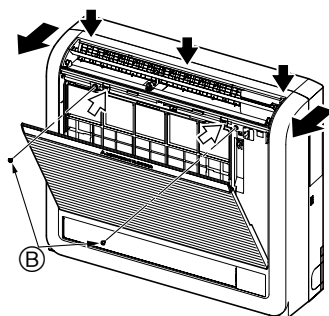

Fig. 3-3
- 1) Press the 2 positions indicated by the arrows and open the front grille. (Fig. 3-3)